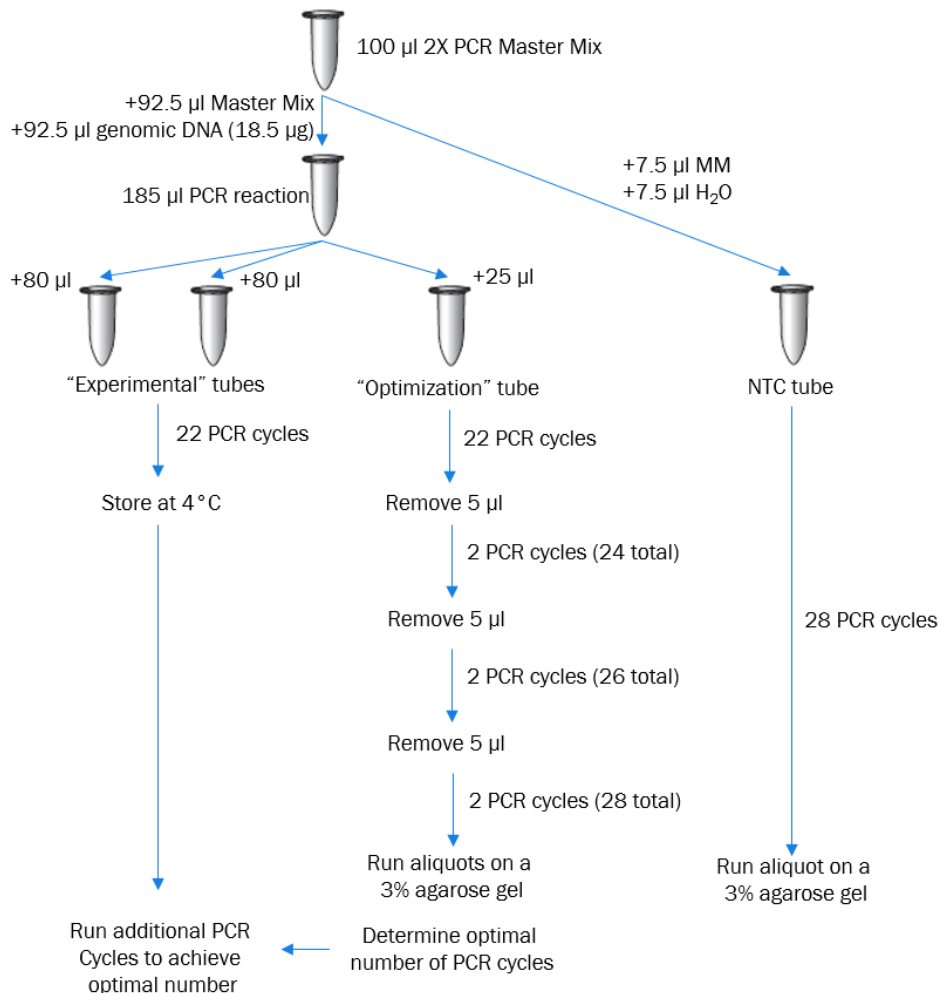

Figure 8. Optimization of PCR parameters for optimal yield during library amplification.
- Refer to Figure 8 (below) for an overview of the PCR optimization process before proceeding.
5. For each gDNA sample to be analyzed (screened population[s] and reference control) prepare two “Experimental” reactions and one “Optimization” reaction as follows (see Figure 8, above, for context):